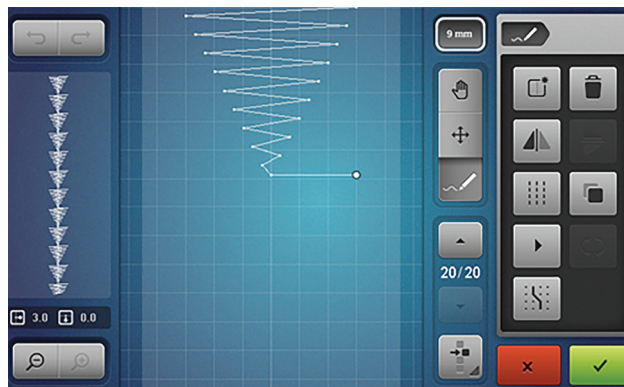

Fig. 29
5.  Select Move Points and move flower petals (Fig. 29), as desired. Remember to Undo/Redo.